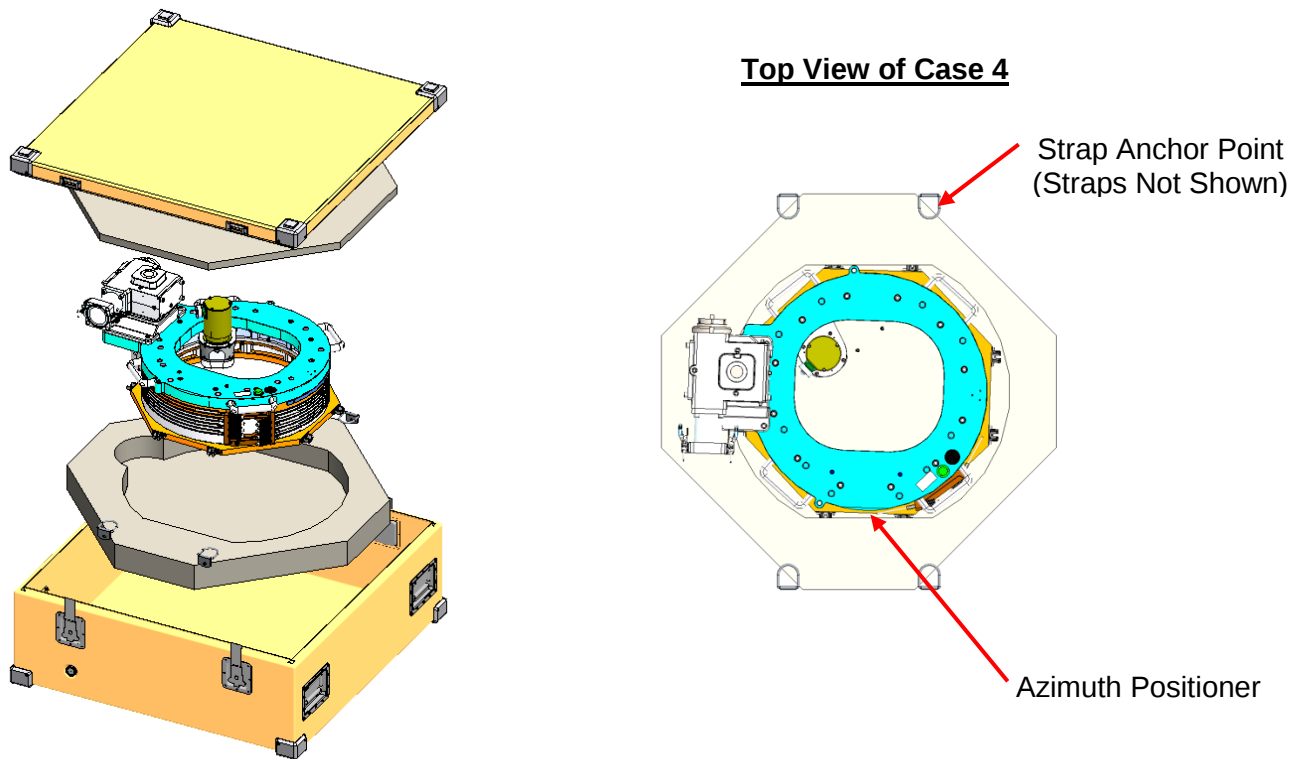

Figure 53. Case No. 4 Pack-Up
44. Remove the azimuth positioner assembly and place in Case 4 as shown in Figure 53.